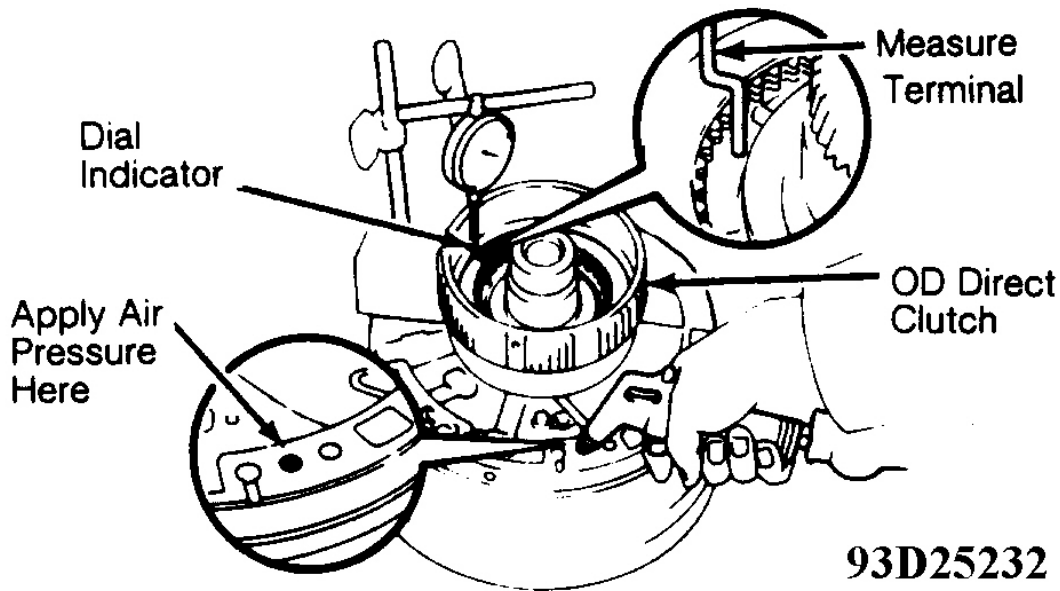

Fig. 19: Checking OD Direct Clutch Piston Stroke
2. Remove OD direct clutch assembly from OD planetary gear. Place oil pump on torque converter. Place OD direct clutch assembly on oil pump. Using Measure Terminal (09350-06110) and dial indicator, measure piston stroke by applying compressed air. See **Fig. 19**. Piston stroke should be .0433-.0669" (1.100-1.700 mm). If piston stroke is not within specification, inspect discs for proper assembly.